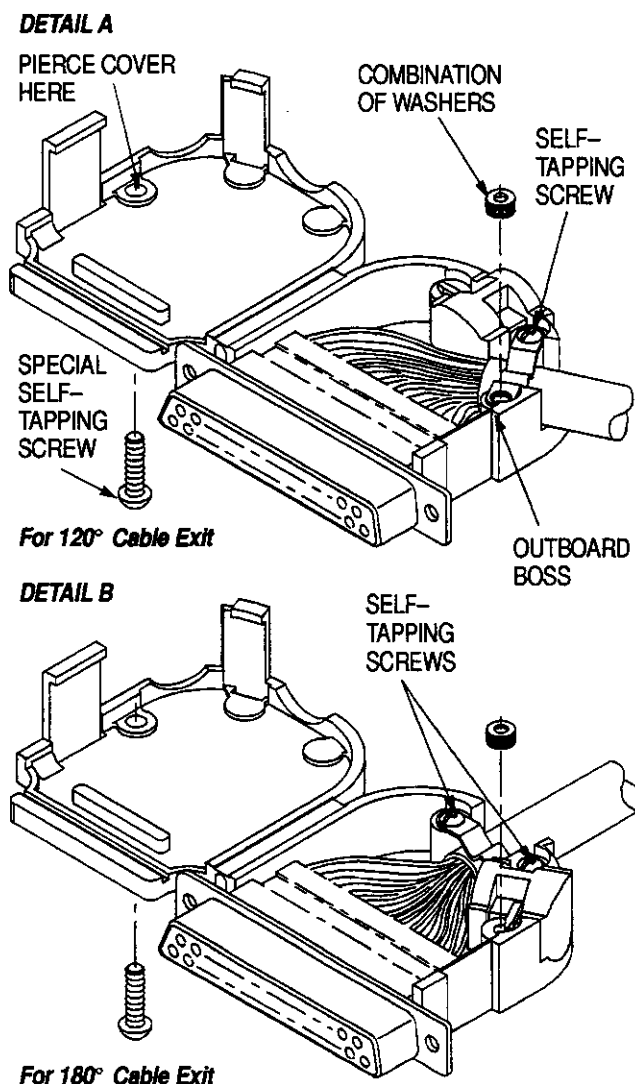

Figure 5
For special applications, the cable clamp cover may be secured with one special self-tapping screw in the outboard boss. Refer to Figure 5. Order screw
1. Pierce a hole in the cable clamp cover as indicated in Figure 5.
2. If using the 120° cable exit, insert one self-tapping screw through the hole in the strain relief clip opposite the outboard boss, leaving the other hole empty for the special screw. Refer to Figure 5, Detail A. Close cover and secure latches. Insert the special screw in the pierced hole. The special screw will secure the cable clamp cover as well as the strain relief clip.
If using the 180° cable exit, insert self-tapping screws through holes in strain relief clip, close cover and secure latches. Insert the special self-tapping screw in pierced hole. Refer to Figure 5, Detail B.
A combination of washers 3.81-mm [.150-in.] thick should be inserted under the special self-tapping screw on the inside of the cable clamp. See Figure 5.